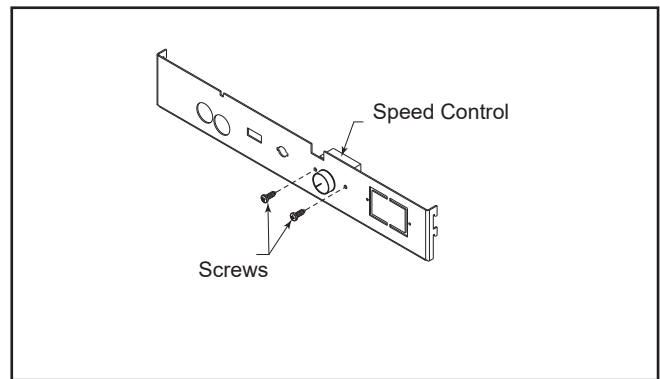

Figure 17
3. Attach the Variable Speed Control to the control panel with the 2 screws previously removed. See Figure 17.